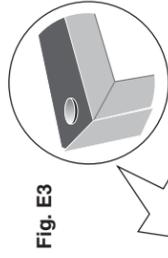

Fig. E3
5. Remove the plastic screw cap from the top left hand (**Fig E3**) side and install it on the top right hand side of the door frame.